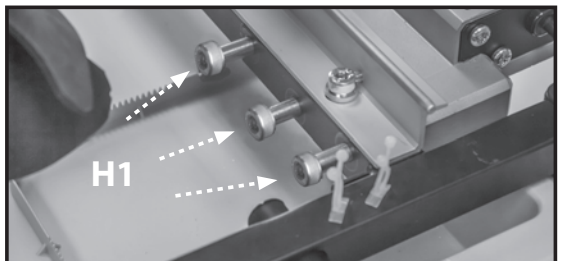

FIGURE 7
3. (See Figure 7) Secure the saw arm assembly to the main frame using the three M10 X 60 hex head screws (H1) from the inside of the main frame. Tighten using the supplied 8mm Allen wrench (H2).